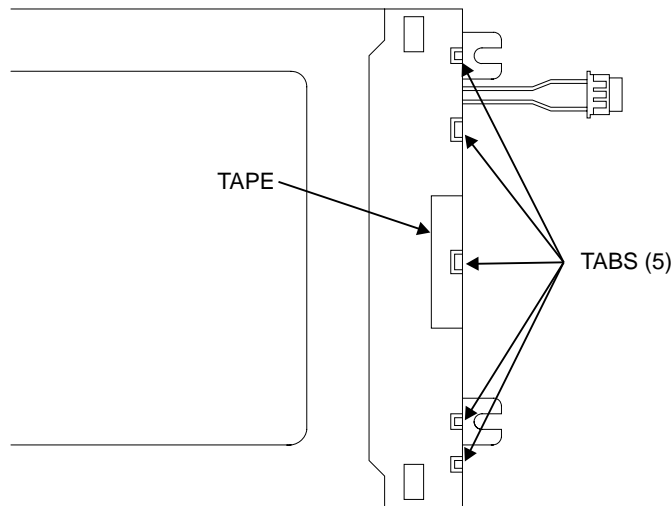

Figure 7-4. Backlight Lamp Removal
25. The backlight fluorescent lamp is held to the LCD assembly by tabs. Peel off the tape that covers the center tab (Figure 7-4).